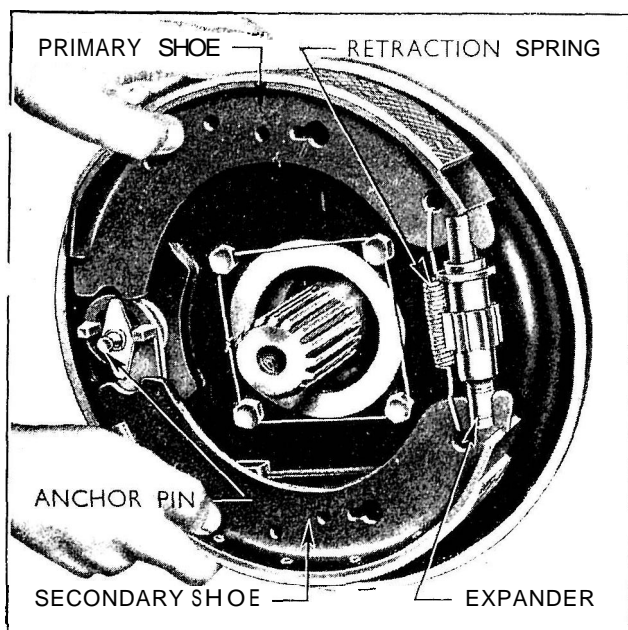
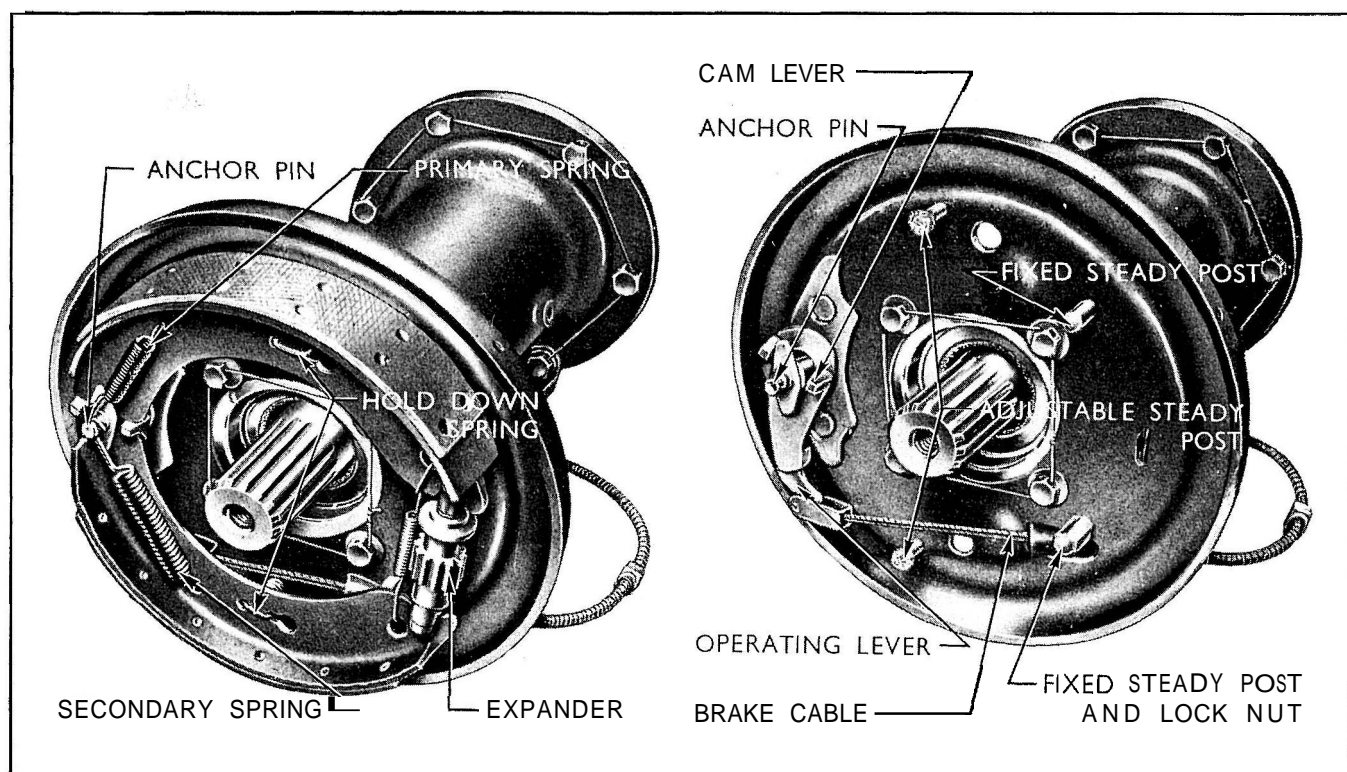

Fig. 223
Fig. 225
- 6 Spring the two shoes away from the anchor pin and lift, complete with the retraction spring and the expander, from the back plate. (See Fig. 223.)
- 1 Replace the back plates, securely tighten the retaining bolts (and washers) and lock them by means of a wire through the bolt heads (see Fig. 225).
Expand the anchor pin ends of the shoes by hand (as when removing, see Fig. 223) and locate in position with the semi-circular ends on the shank of the pin (see Fig. 225). Fit the hold down springs and anchor cups (larger end of the spring in the two holes in the brake shoe).
- 2 Unscrew the cable clamp retaining bolt (this bolt is locked by means of the secondary shoe fixed steady post). (See Fig. 225.)